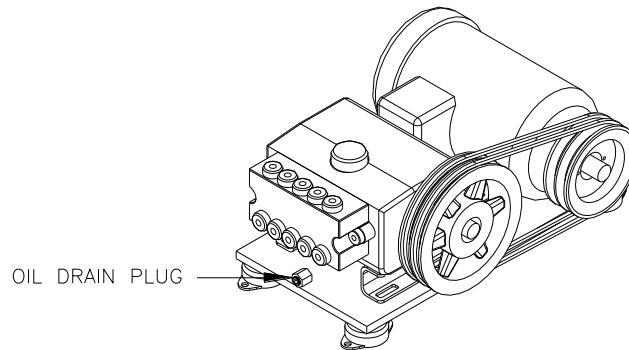

Figure 5.1: PURE WATER HP Pump and Motor.
- Step 2: Remove the oil plug (Refer to Figure 5.1) and direct the oil to a catch basin or bottle. Allow the oil to drain empty.